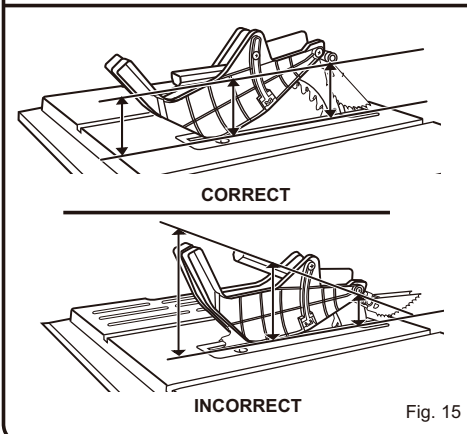

Fig. 15
- With the front of the blade guard raised, lower the back of the guard into the middle hole of the riving knife. Push the front of the guard down until it is parallel to the table (see figure 15). If the blade guard is not parallel to the table, the riving knife is not in the "up" position.